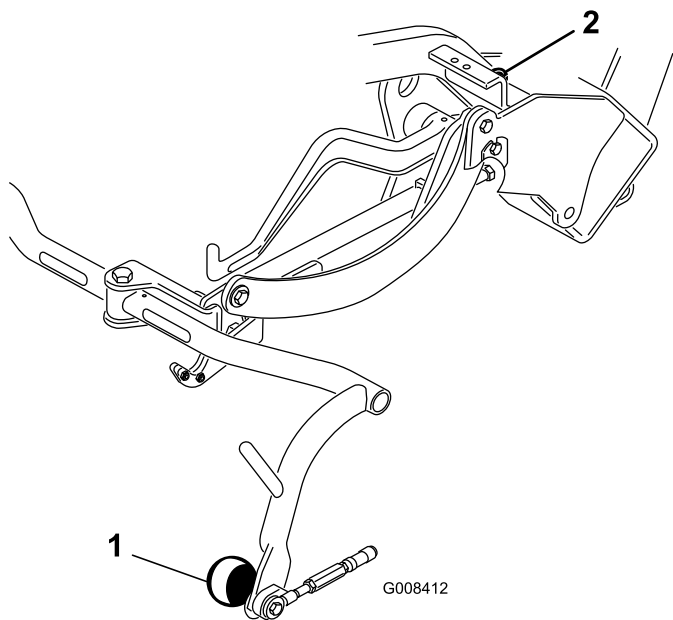

Figure 9
- If you must adjust the clearance, loosen the jam nut on the carrier frame stop screw (Figure 9) and rotate the screw up or down to raise or lower the carrier frame. Tighten the jam nut to secure the adjustment.